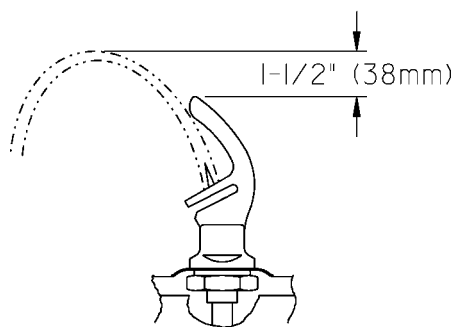

FIG. 8
- 8. Check stream height from bubbler.** Stream height is factory set at 45-50 PSI. If supply pressure varies greatly from this, adjust the screw on regulator (item 13, on page 7). Clockwise adjustment will raise stream height and counter-clockwise will lower stream height. For best adjustment stream height should be approximately 1-1/2" (38mm) above the bubbler guard. (See Figure 8)